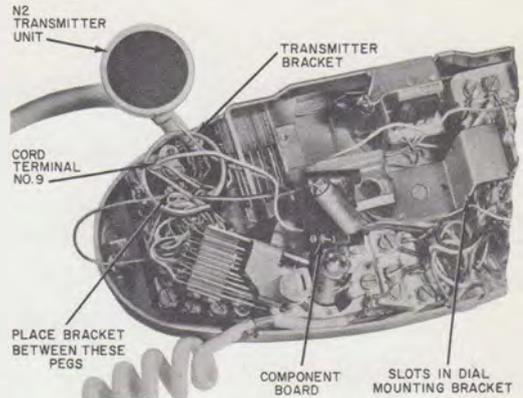

Fig. 5—664C Transmitter, Component Positioning
- (3) Install the component board of the replacement transmitter between the dial mounting bracket uprights and secure using the screw furnished. The component board is notched to fit into slots on the dial mounting bracket.
- (4) Mount the transmitter bracket on the mounting board terminal board using one screw from terminal 9 (Fig. 5). The bracket should be placed between pegs on the terminal board as shown in Fig. 5.